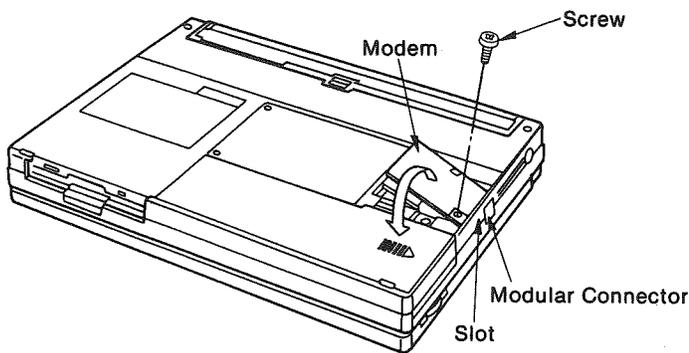

Figure 5
4. Remove the screw on the modem and carefully raise the modem. (Refer to Figure 5.)